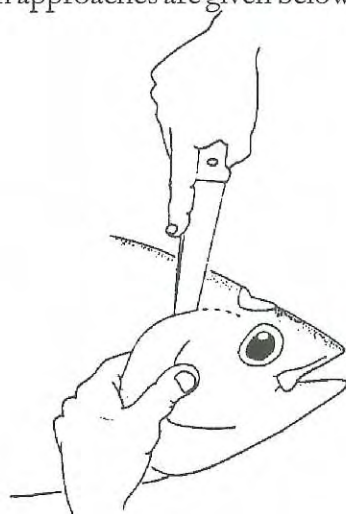

Figure 11. Insert knife at the top of the gill cover and slide it toward the eye.
- Step 3** Pull one gill away from the body. Then insert a knife at the top of the gill and slide towards the eye. Make this cut on both sides of the fish (Figure 11).